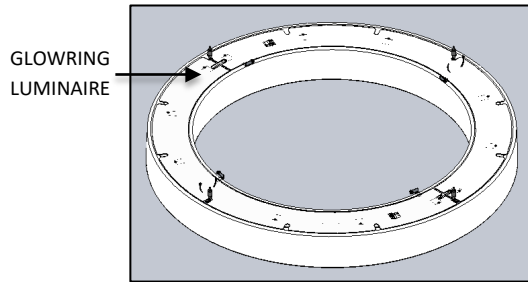

FIG. 4 GLOWRING LUMINAIRE
1. GLOWRING LUMINAIRE. (Pre-assembled as shown in FIG. 4)